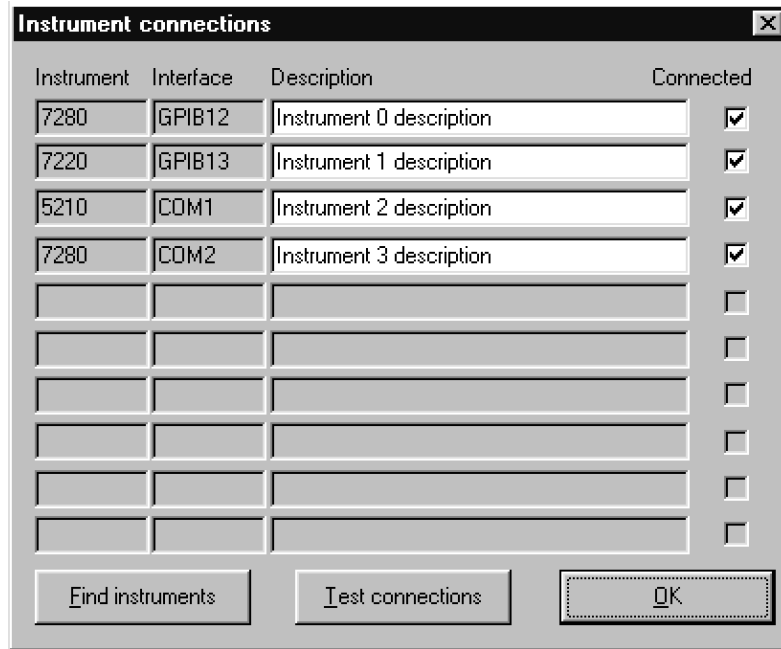

Figure 3-2, Instrument Connections Dialog Box - 4 Instruments Available
- 3) The user should then click **Find Instruments** and **OK** to proceed at the warning "This action will overwrite all instrument descriptions". This runs the **ScanForInstruments** function, which starts a search of the GPIB and then the serial ports for any compatible instruments and on completion updates the dialog box. For example, with four instruments connected the updated dialog box might appear as in figure 3-2 below.